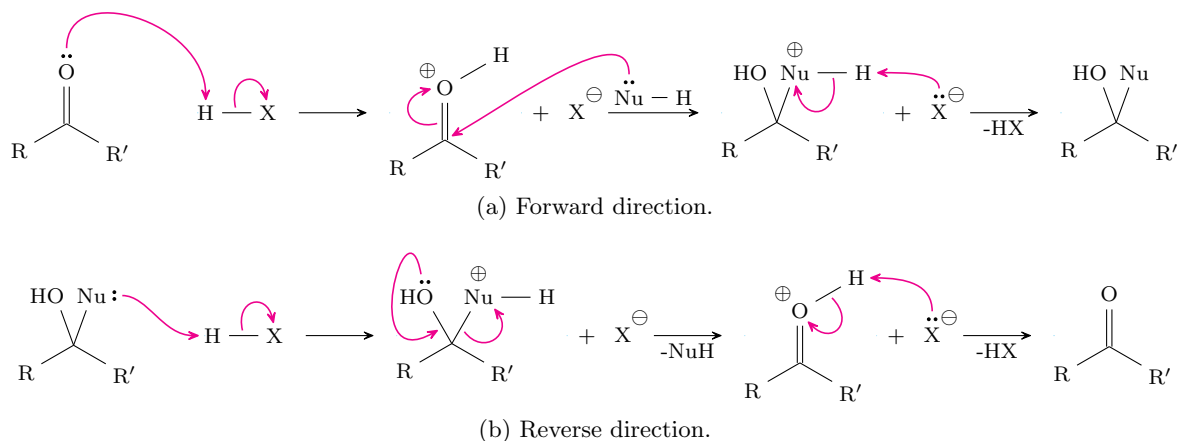

Figure 1.8: Nucleophilic addition/elimination with carbonyls (acid-promoted).
- Picking up from last time with acid- and base-catalyzed nucleophilic addition to carbonyls (Figures 1.8 and 1.9).